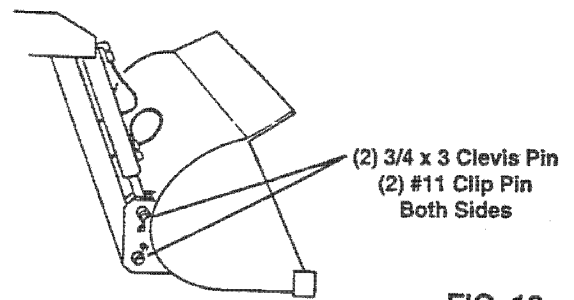

FIG. 10
- Attach both cylinders to top holes on bucket. Use two 3/4 x 3 clevis pins and #11 clip pin. (See Fig. 10).